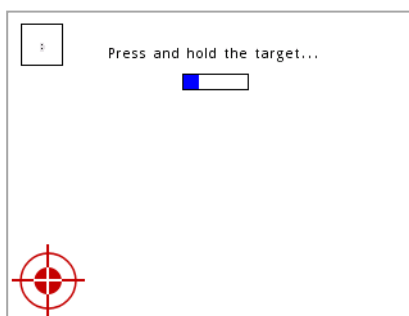

Figure 17-2 Touch Screen Calibration screen
1. Press **MENU > SmartVue > Calibrate Touchscreen**. This will display the screen shown in Figure 17-2.